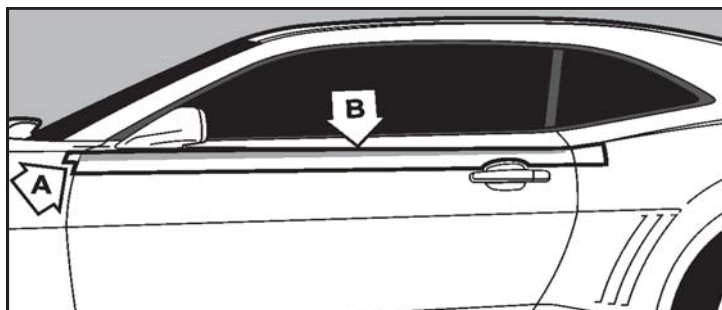

FIGURE 2
3. Position the door stripe over the fender stripe and align the premask with the forward edge of the door. Align the upper edge of the premask with the feature line in the door skin. Apply tape across the stripe behind the door mirror to hold the stripe in position. Cut off the liner from the forward part of the stripe, spray adhesive side and door with solution. Squeegee the strips onto the door. Refer to figure 2.